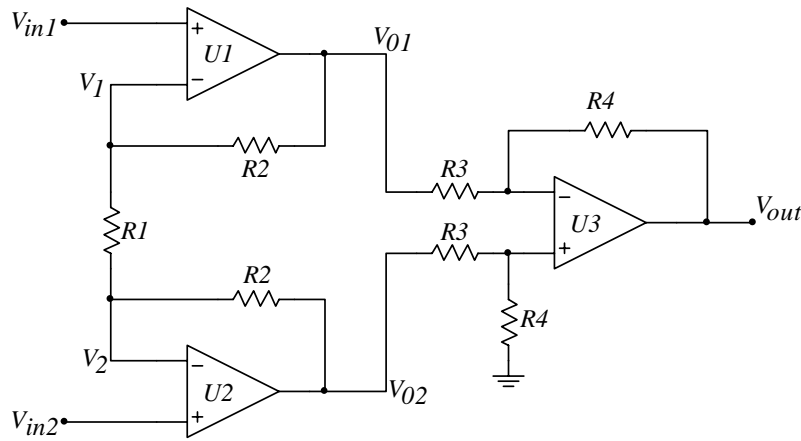

Figure 4. Instrumentation Amplifier circuit
Figure 4 shows our modified differential amplifier called the instrumentation amplifier (IA). Op amps $U1$ and $U2$ act as voltage followers for the signals V_{in1} and V_{in2} which see the infinite input resistance of op amps $U1$ and $U2$. Assuming ideal op amps, the voltage